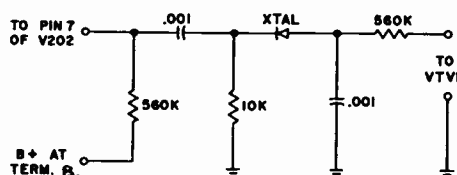

Figure 12—Sound Diode Detector
- VACUUM TUBE VOLTMETER Connect to output of diode detector shown in Figure 12. Set meter for negative voltage readings.
- MISCELLANEOUS Connect test diode detector, see Figure 12, to Pin 7 of V202. Refer to Figure 24 for adjustment locations.